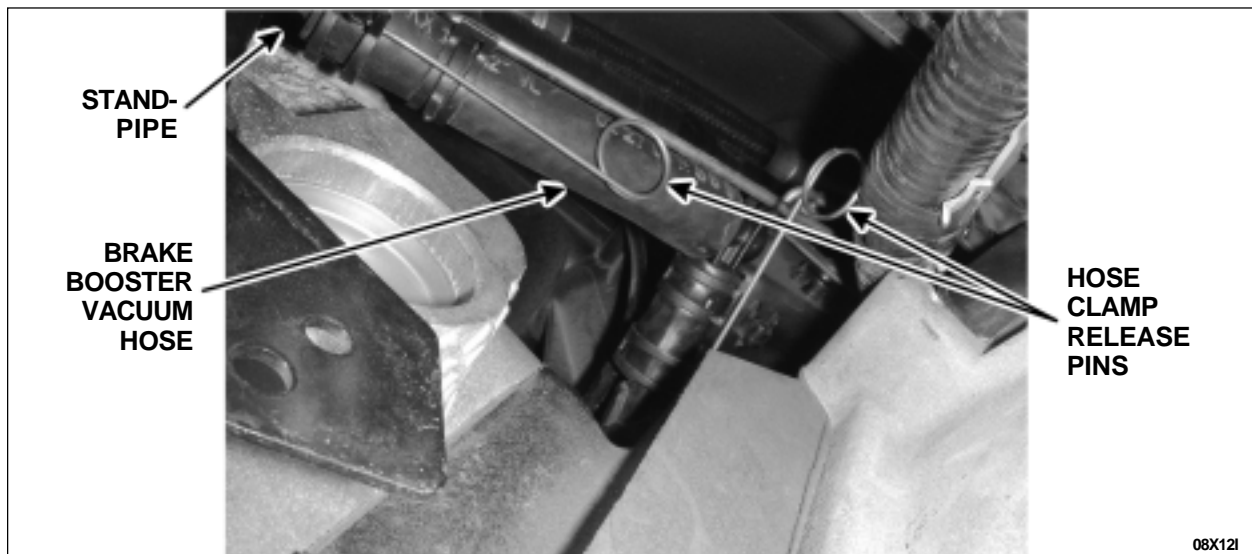

FIGURE 9
3. Install the short end of the brake booster vacuum hose on the intake manifold vacuum nipple and release the hose clamps. See Figure 9.